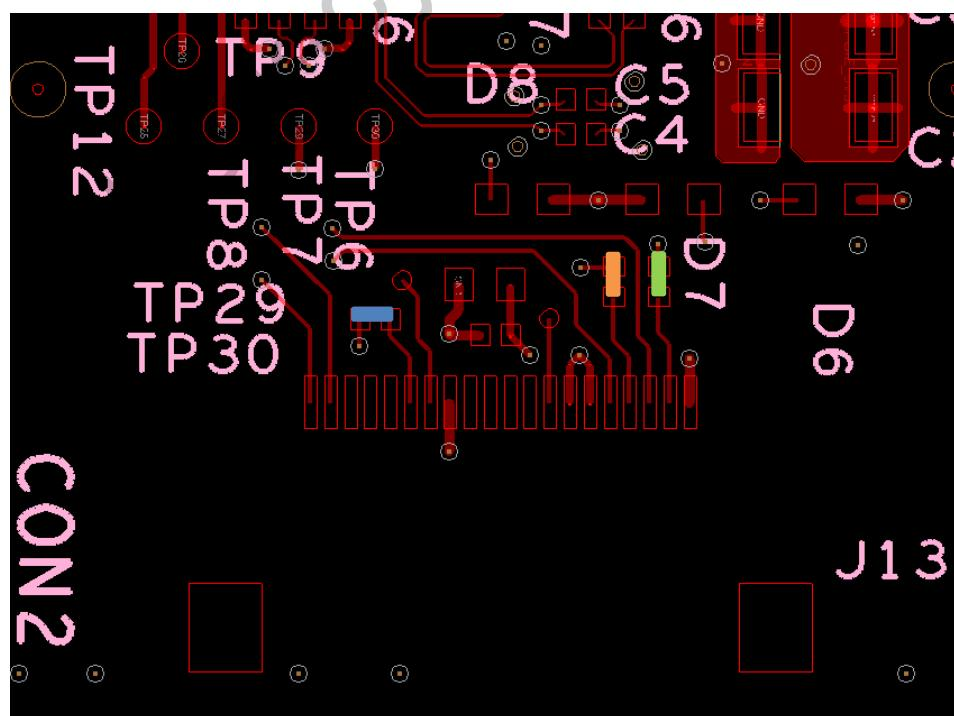

Figure 36: BT\_REG\_ON/BT\_UART\_CTS/BT\_UART\_RTS rework
- 2) Note orientation of J13 Connector (Pin #1 on bottom left) in Figure 36. Populate resistors R209 (Pin #6/KEY\_ROW6/BT\_REG\_ON: blue), R210 (Pin #17/KEY\_ROW4/BT\_UART\_CTS: orange) and R211 (Pin #19/KEY\_COL4/BT\_UART\_RTS: green).